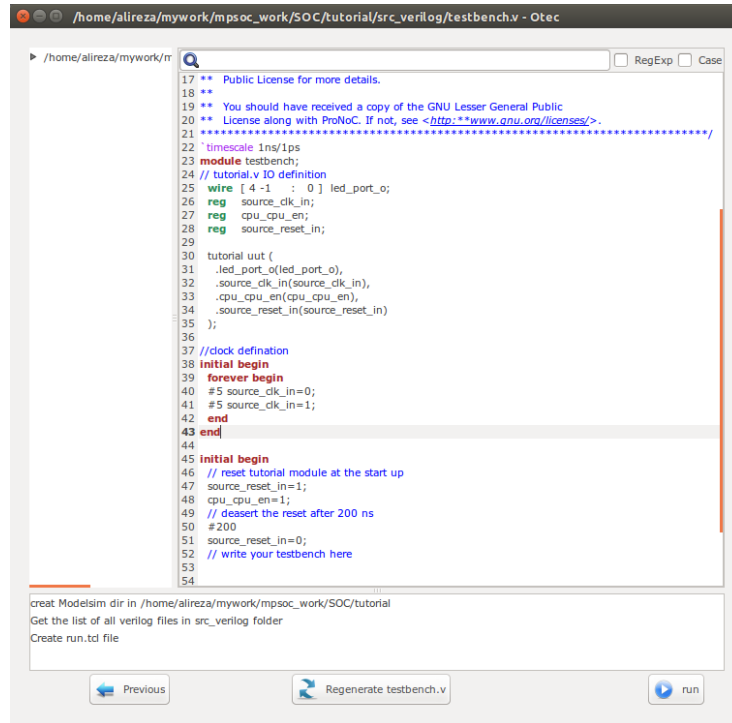

Figure 5.15: testbench.v file snapshot.
5. Now you must have the `testbench.v` opened in text editor window as shown in Figure 5.15. This is the minimum testbench file for running the simulation of the generated SoC in Modelsim software. It has the SoC instance module connected to the clock and reset signals. You can edit this file as you wish.